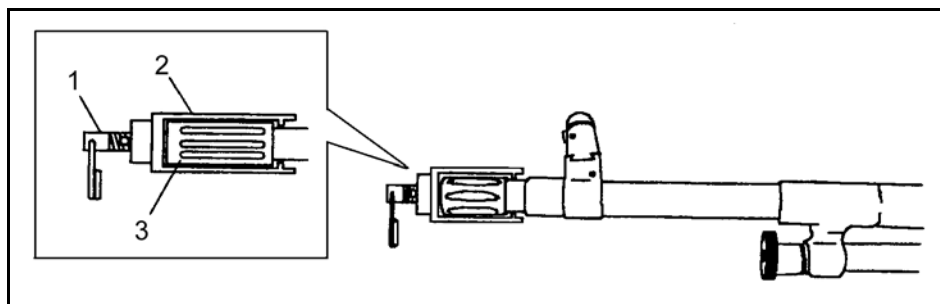

Figure 3-8. Remove the blank firing attachment.
(2) **Remove the BFA** (Figure 3-8). Hold the barrel and rotate the chamber of the body (2) about 180 degrees counterclockwise to break any carbon sealed between the shaft (1) and the suppressor (3). Unscrew the shaft (1) until the threads disengage. Remove the chamber device from the suppressor (3).